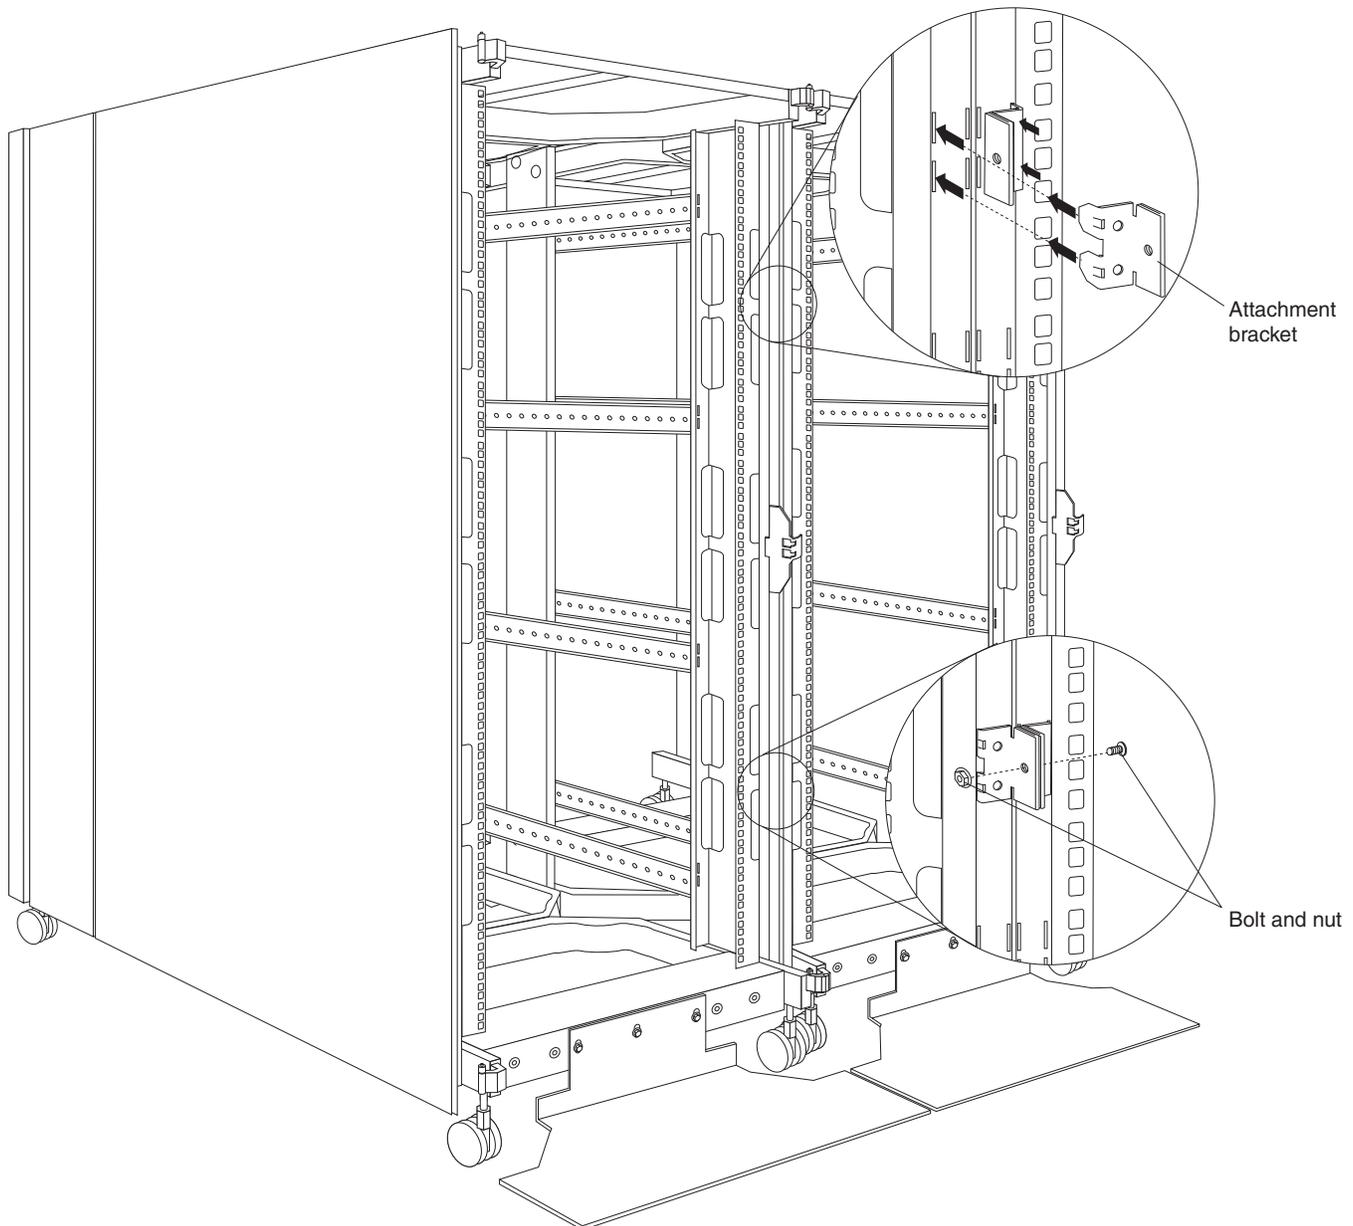

Figure 17. Attaching two adjacent NetBAY42 Rack cabinets to each other to form a suite
- a. Insert an attachment bracket into the slots on the front of one of the rack cabinets as shown in Figure 17 on page 18; then, insert an attachment bracket into the slots on the front of the other rack cabinet so that the holes in each bracket are aligned.